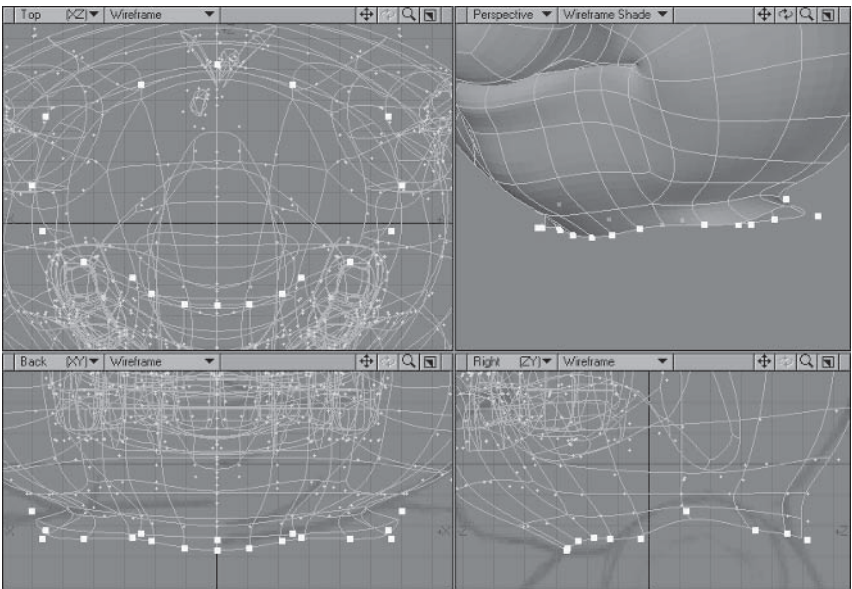

Figure 5.4-1. Continuing the neck.
1. Turn on **Symmetry**, select the bottom row of points of the head, and **Extend**. Move the points down and adjust them to match Figure 5.4-1, moving the side three points out to start the shoulders and the front points in to finish the neck.